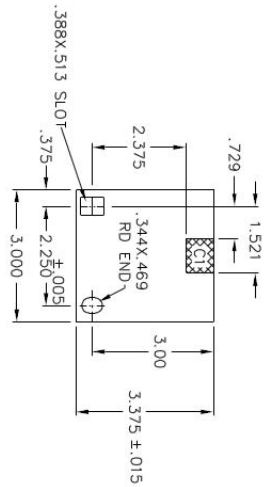

FIGURE 1
1. DETAIL PLATES ARE SAME AS VAC-CLAD (693C436), EXCEPT C1 MATERIAL REMOVED VC-W FIGURE 1.